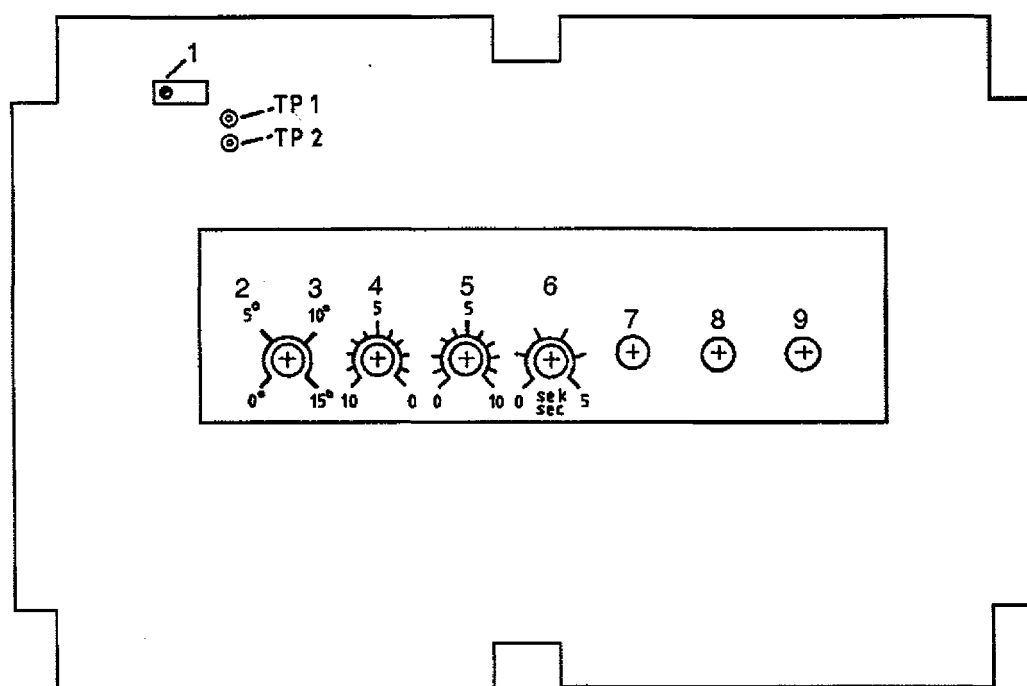

Fig. 33AA
- b) connect voltmeter to test points 1 and 2 (1 V range), reading must be +25 mV or lower (voltage can be positive or negative). If not, correct with potentiometer. See **Fig. 33AA**.
(Fig. 33AA)